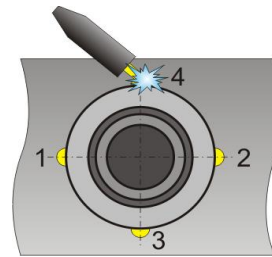

Figure 5
2. Tack the sleeve in place at 4 points (Fig. 5)